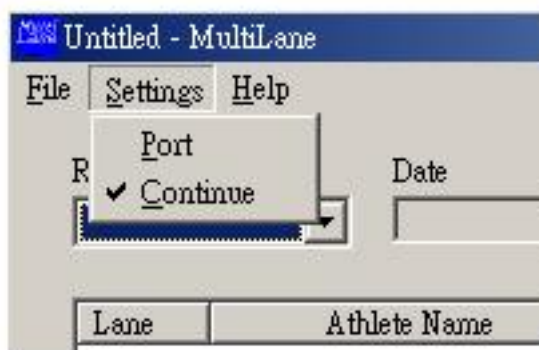

Fig.40
- 5) Continue function, this function is located in the 'SETTING' pull down menu. Click 'Continue' for either enable or disable Fig.40. This function affects the way race records are saved into files.